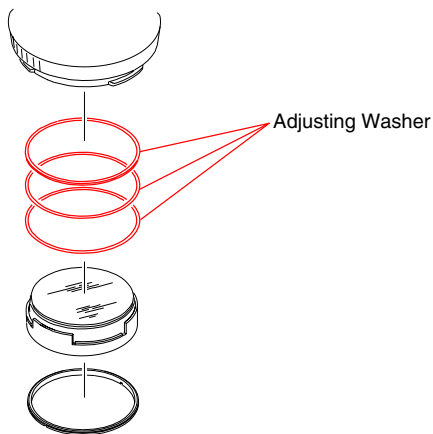

Fig.4-5-1
- 3) Adjust the adjusting washer thickness according to the result of step 2). (Refer to Table 4-5-1 and Fig.4-5-1.)